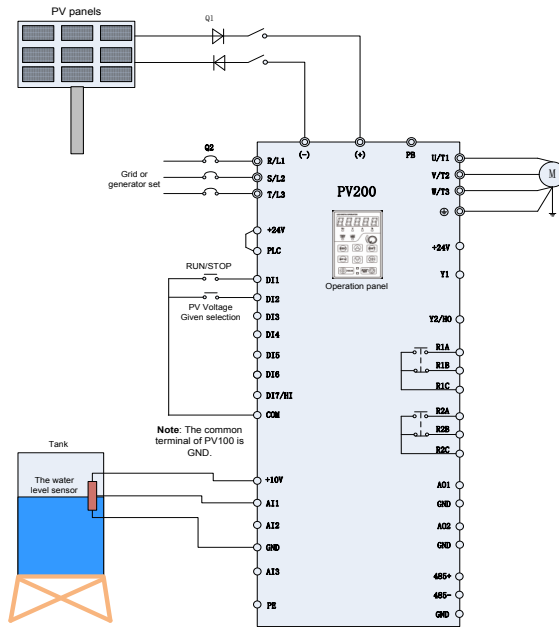

Figure 2-3 Grid or Generator Power Supply Wiring Diagram 1
Wiring drawings of below inverters shown as Figure 2-3: PV100 series, PV200 series 3 phase 220V inverters with power lower than 15kw and 3 phase 380V inverters with power lower than 30kw.
1. Wirings as Figure 2-3 system wiring drawings according to inverters power, check and confirm the connections to be correct.